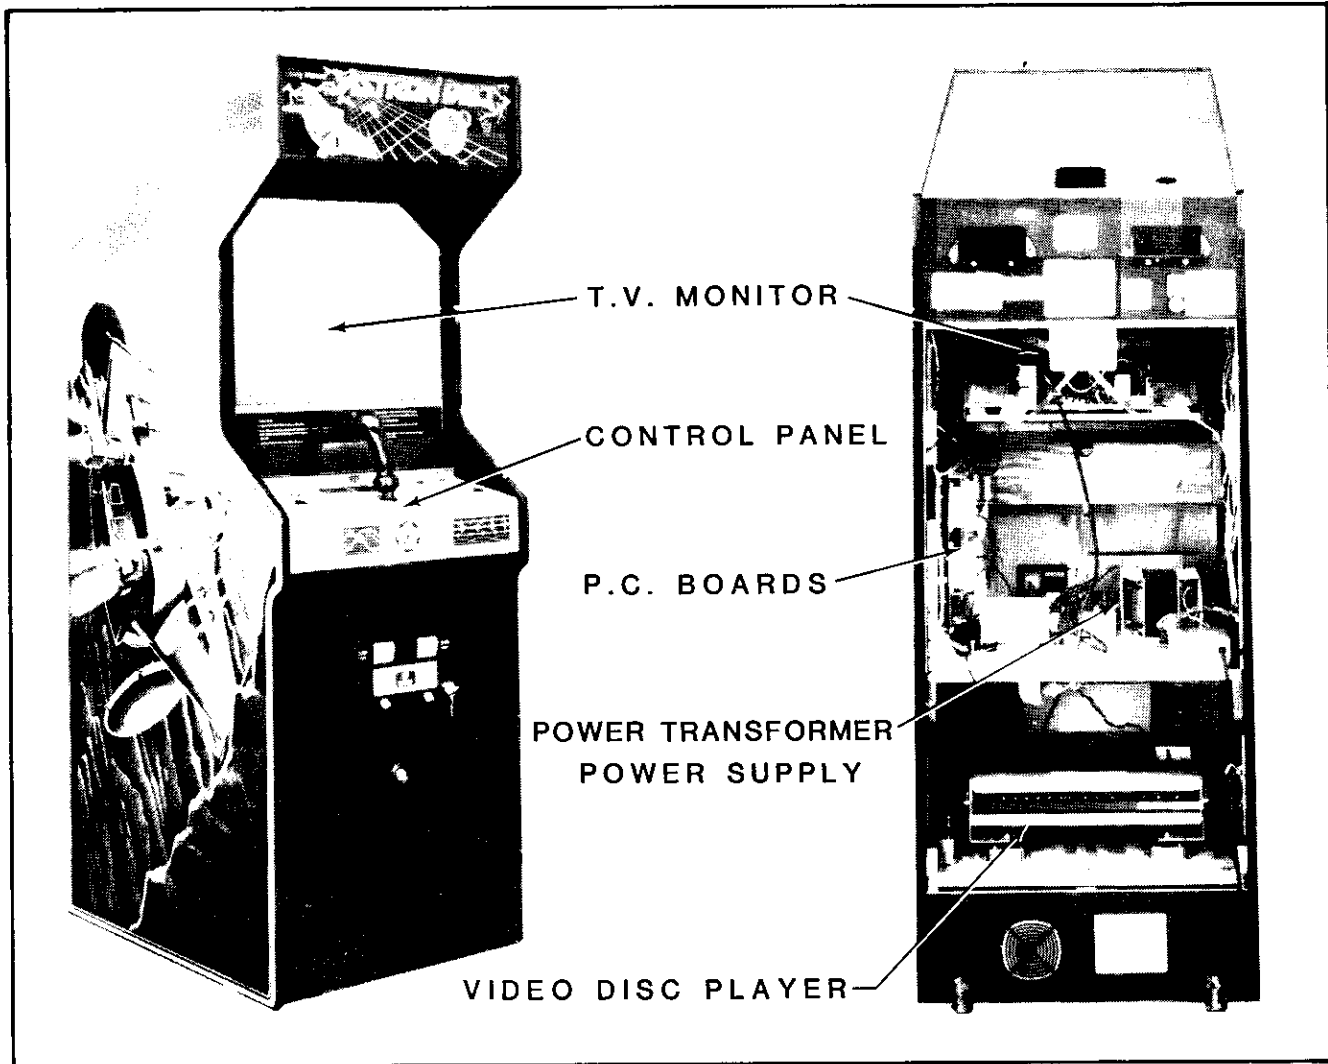

Figure 1-2 Location of Serial No., Interlock Switch, & Major Sub-Assemblies
5. Open the cabinet and inspect the inside of the game for any signs of damage. See Figure 1-2.
- Make sure all printed circuit boards (P.C.B.'s) are firmly seated in their connectors. See Figure 1-2. These connectors are
- Note the location of the games serial number. See Figure 1-2.
- Check all major subassemblies to be sure they are mounted securely. These are called out in Figure 1-2.
3. Interlock and power ON/OFF switches. See Figure 1-2.
The game ON/OFF switch is located as shown in Figure 1-2. Turn the game on and allow it to warm up a few minutes.